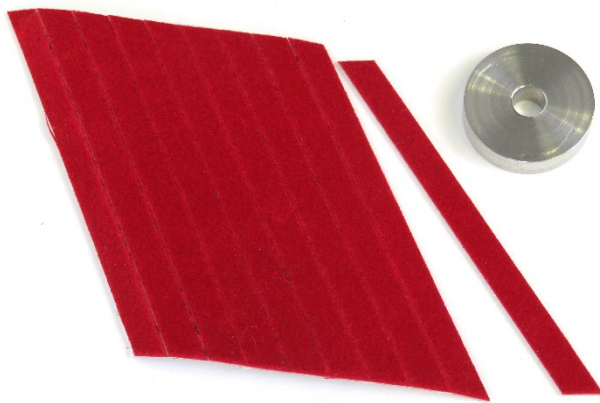

Figure 2: Repadding Strips and an Unpadded 1/2" Large Area Tool Core
1. Each set of Repadding Strips is adhesive-backed. When preparing to repad a Tool, ensure the Tool core is clean and oil-free, then remove one of the pre-cut cloth strips from the sheet of 10 as shown in *Figure 2* below.